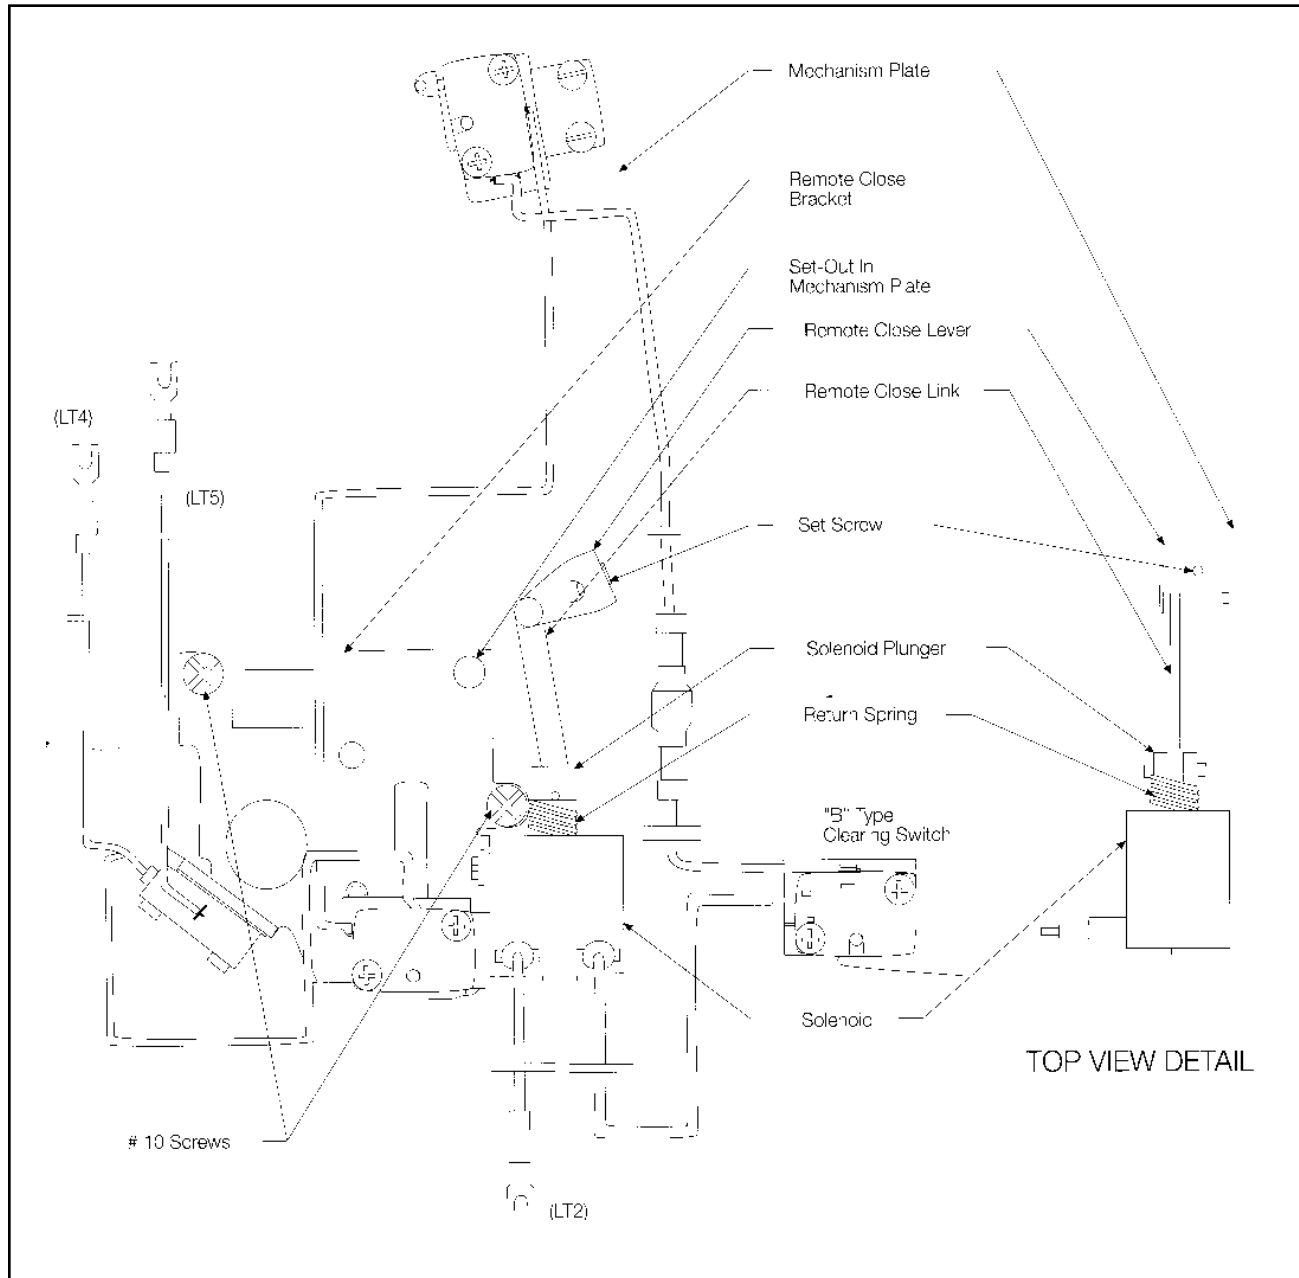

Figure 1. Remote Close Accessory and Bracket Mounting
- 1.) Remove the rubber band from the solenoid plunger. Slide the remote close lever on the closing D-shaft but do not tighten the set screw at this time (Figure 1)
- 2.) Place the return spring over the solenoid plunger and slide the solenoid over the solenoid plunger (Figure 1).
- 3.) Attach the remote close assembly to the mechanism plate using the (2) # 10 screws provided. The assembly is aligned by a set-out in the mechanism plate that fits in a hole in the remote close bracket. Note: Torque screws to 24-32 in. lbs.
- 4.) Align remote close link with solenoid and tighten set screw (see TOP VIEW Detail in Figure 1). Note: Torque set screw to 6-8 in. lbs.